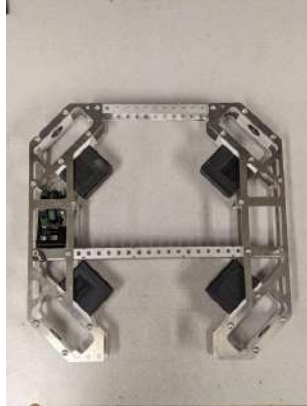

Figure 10: Cross braces attaches the two halves of the chassis frame together
5. As figure 10 shows, two 3-wide c-channel pieces are mounted between the two halves of the chassis, **creating a U-shape of the chassis**. The c-channels are boxed, which will prevent the flanges of the metal from bending in. **This will prevent deformation to the structure**.